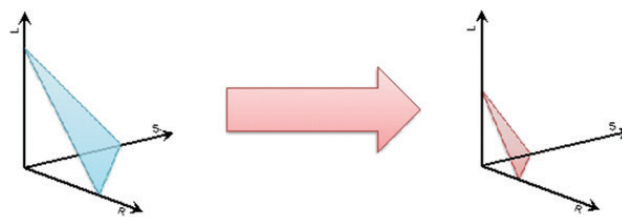

FIGURE 1. To improve the RLS tradeoff, it is necessary to move to a new RLS graph, which can only be done by changing the resist material.
The critical performance parameters for any successful resist are: 1) Resolution (R): How narrow the lines on a microchip are, 2) Line-edge roughness LER (L): How ‘wobbly’ the lines are; and 3) Sensitivity (S): How small a dose of radiation is required (how quickly the pattern can be formed). These performance metrics are known as the RLS targets, and they are set out in the ITRS. For a given material, these metrics have a conflicting relationship (one can only be improved at the cost of another): The ‘RLS tradeoff’. For a given material, improving one or two of the metrics leads to a loss in the third. To improve the RLS tradeoff, it is necessary to move to a new RLS graph. This can only be done by changing the resist material as illustrated in **FIGURE 1**.